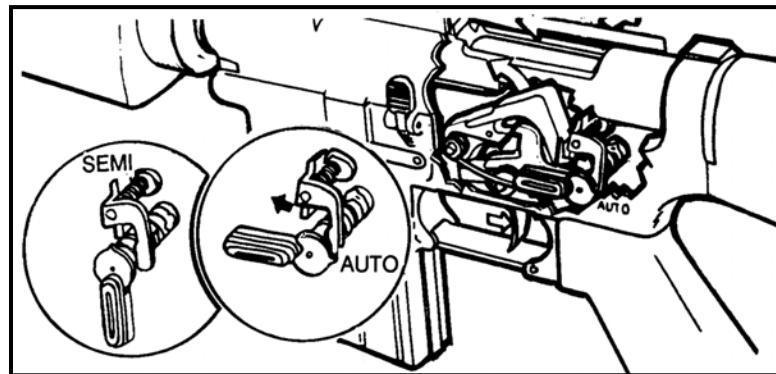

Figure 4-11. Automatic fire mode.
b. **Automatic Fire Mode (M16A3 Rifle, M4A1 Carbine Only).** When the selector lever (Figure 4-11) is set on the AUTO position, the rifle continues to fire as long as the trigger is held back and ammunition is in the magazine. The functioning of certain parts of the rifle changes when firing automatically.
(1) Once the trigger is squeezed and the round is fired, the bolt carrier group moves to the rear and the hammer is cocked. The center cam of the selector depresses the rear of the disconnector and prevents the nose of the disconnector from engaging the lower hammer hook. The bottom part of the automatic sear catches the upper hammer hook and holds it